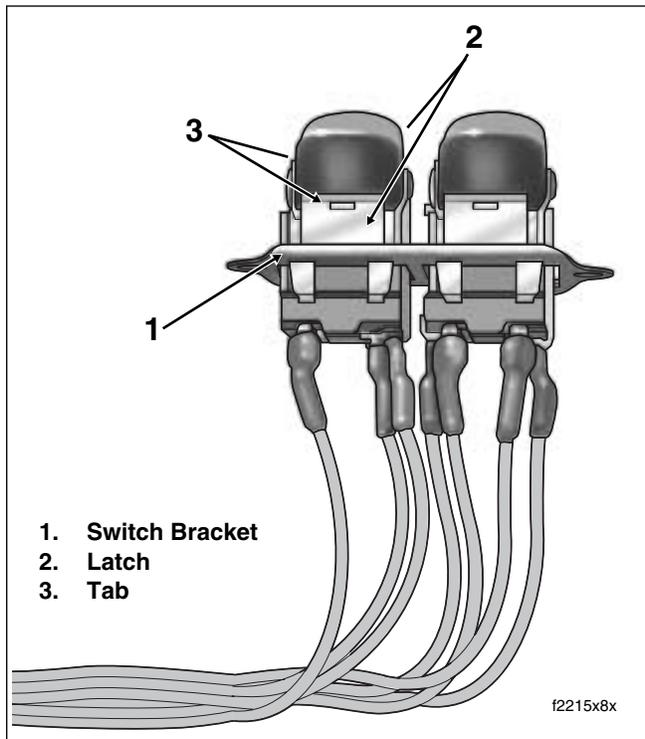

Figure 8-84. Bend Latches Outward to Release Tabs
- Carefully pry two latches on bracket outward to release tabs on switch. Remove switch from bracket. See Figure 8-84.
- a. Place **new** switch into position in bracket. Engaging tabs on switch in slots of latches, gently bend tabs upward to lock position of switch in bracket. See Figure 8-84.